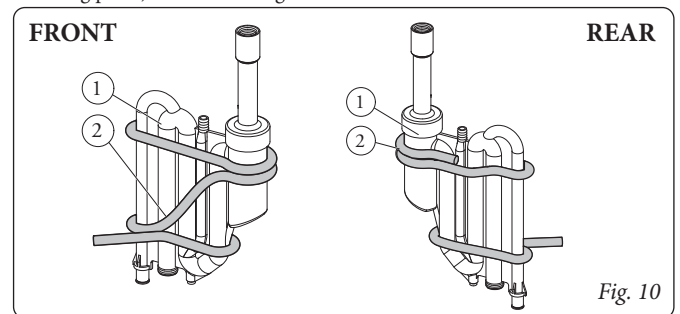

Fig. 10
### Assembling the heating cable inside the indoor unit (Fig. 10 - 11).
Wrap the heating cable (2) around the lower part of the siphon (1) 2 times. Then secure it in 2 points with the zip ties in the kit (use 2 ties in series for each fastening point) as shown in Fig. 10.